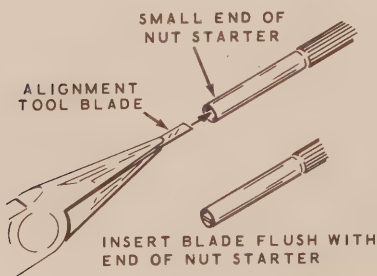

Figure 2
- ( ) Refer to Figure 2 and prepare the coil alignment tool by inserting the alignment tool blade (#205-254) into the small end of the nut starter.